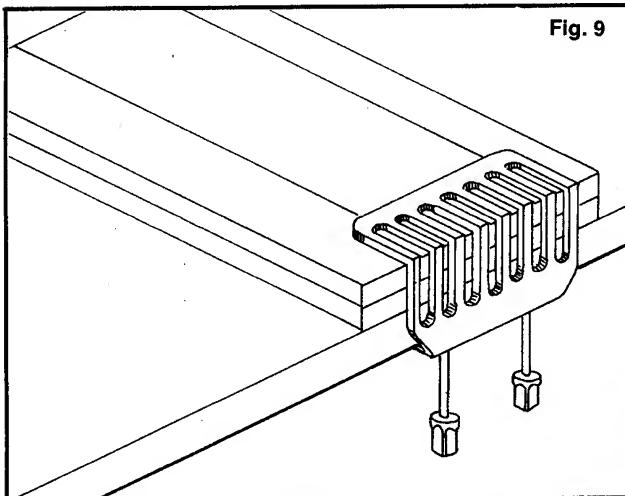

Fig. 9
4. Place a piece of scrap wood of the same total thickness against either side of the piece to be cut for support on outer cuts (Fig. 9); then hand tighten clamps completely, and check position of wood again.